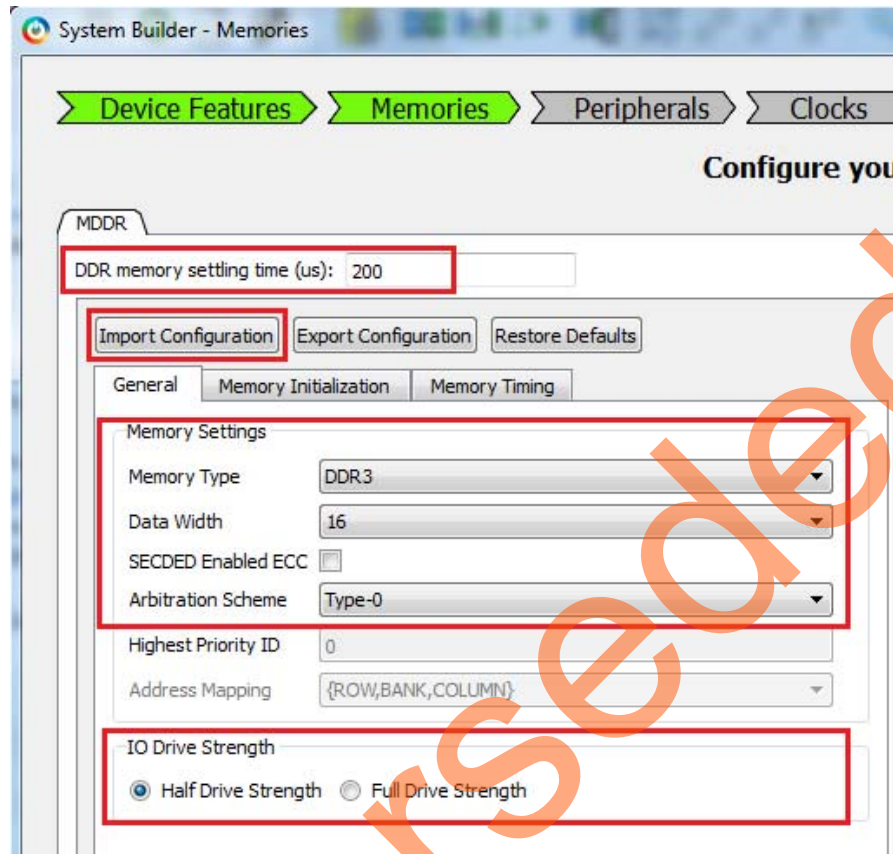

Figure 9 • Memory Configuration
2. Configure the MDDR in **Memories** tab as shown in Figure 9 on page 13. In this example, the design is created to access the DDR3 memory with a 16-bit data width and no ECC.